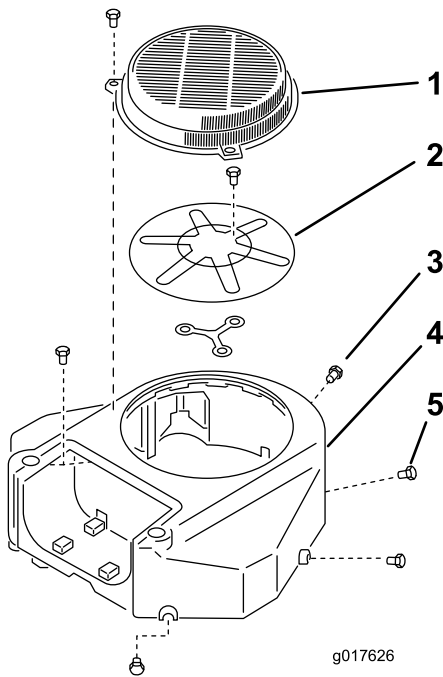

Figure 60
3. Remove the air-intake screen and the fan housing (Figure 60).
5. Install the air-intake screen and fan housing (Figure 60).